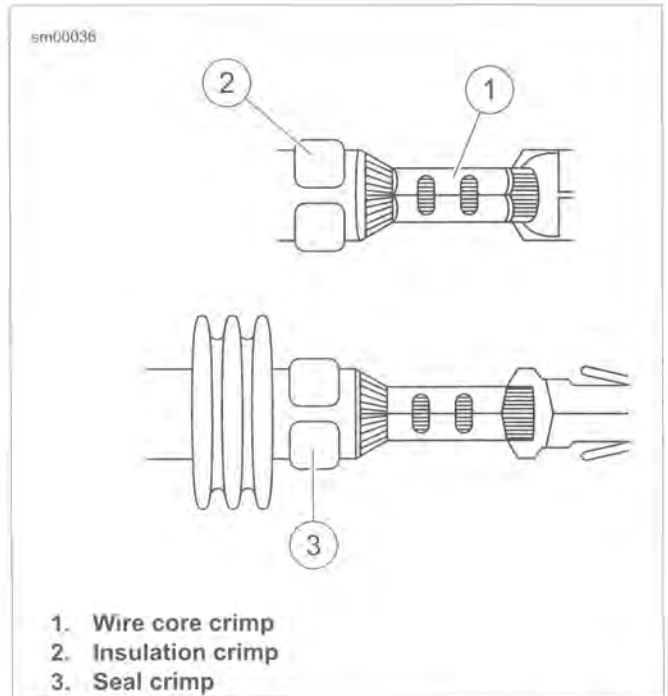

Figure A-22. Metri-Pack Connector: Inspect Core and Insulation/Seal Crimps
1. See Figure A-22. Identify the correct die for the insulation/seal crimp (2).
1. See Figure A-22. Inspect the wire core crimp (1). Make sure that the tails are folded in on the wire core without any distortion or excess wire strands.
2. Inspect the insulation (2) or seal (3) crimp. Make sure that the tails of the terminal are wrapped around the insulation without distortion.